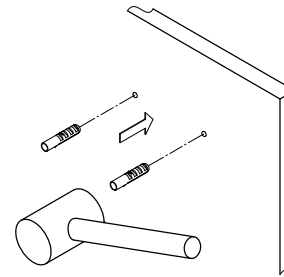

Fig. 3
Step 3. Insert anchors into the holes with a hammer until flush with the wall (fig 3).